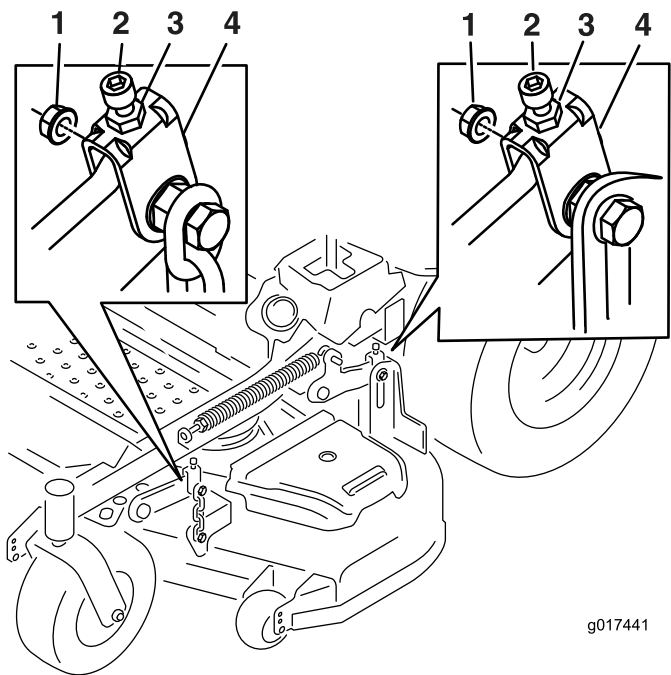

Figure 74
10. If needed, loosen the whizlock nut on the side of the yoke and the jam nut on top (Figure 74).
- Fine-tune the screw adjuster by turning it to get 8.3 mm (3-1/4 inches) height (Figure 74).